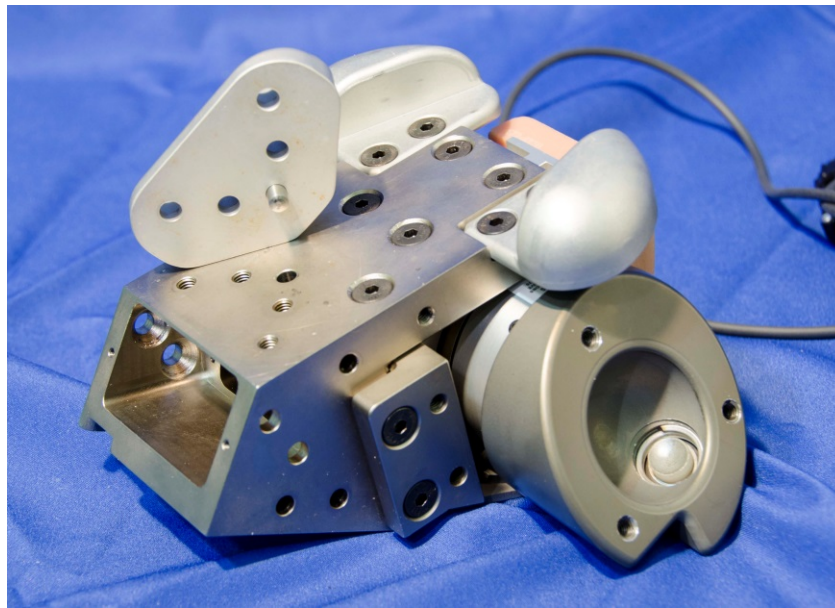
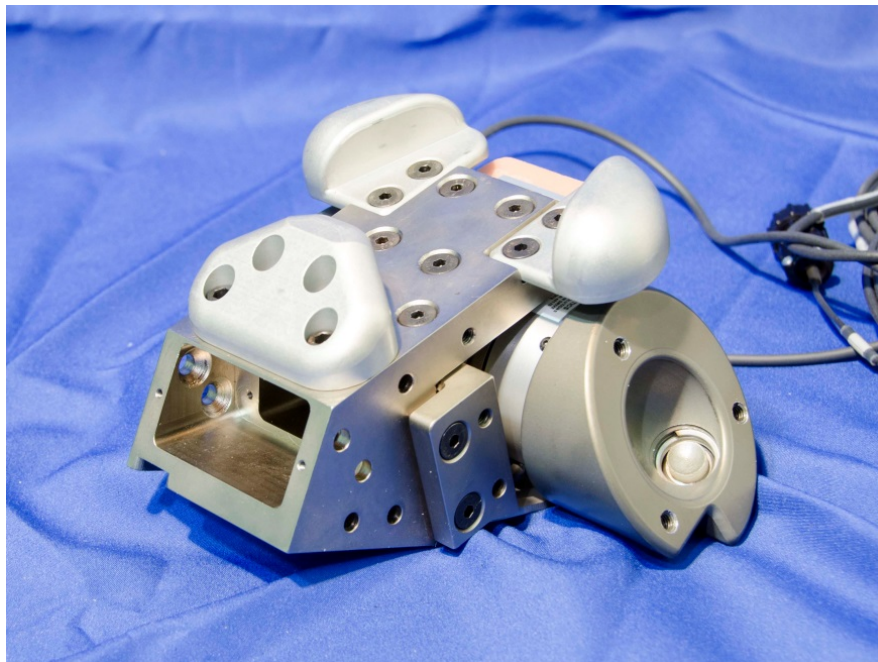

Figure 10-19. Align holes in pelvis coccyx to pelvis base module
Figure 10-20. Pelvis coccyx installed
10.2.2.13 Align the holes of the Pelvis Coccyx (472-4350) with the holes on the rear of the Pelvis Base Module, and attach the coccyx to the base module using four M6 x 1 x 12 SHCS and an M6 x 20 dowel pin (Figure 10-19 and Figure 10-20).